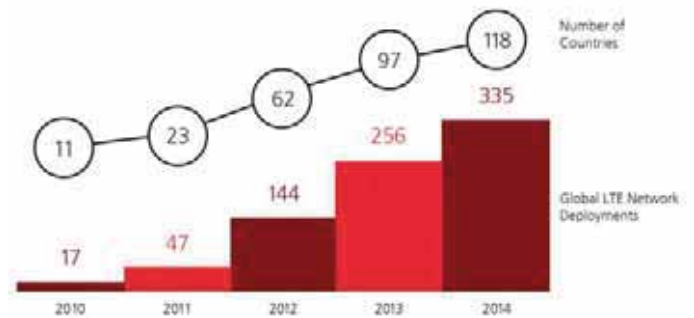

Figure 3: Global LTE network rollout, Source: GSMA
**Figure 3: At CES 2015, Intel took wearable technology forward again, with a button-sized micro-computer. The Intel® Curie™ Compute Module is supported with a raft of smartphone-compatible and Cloud-capable software.**